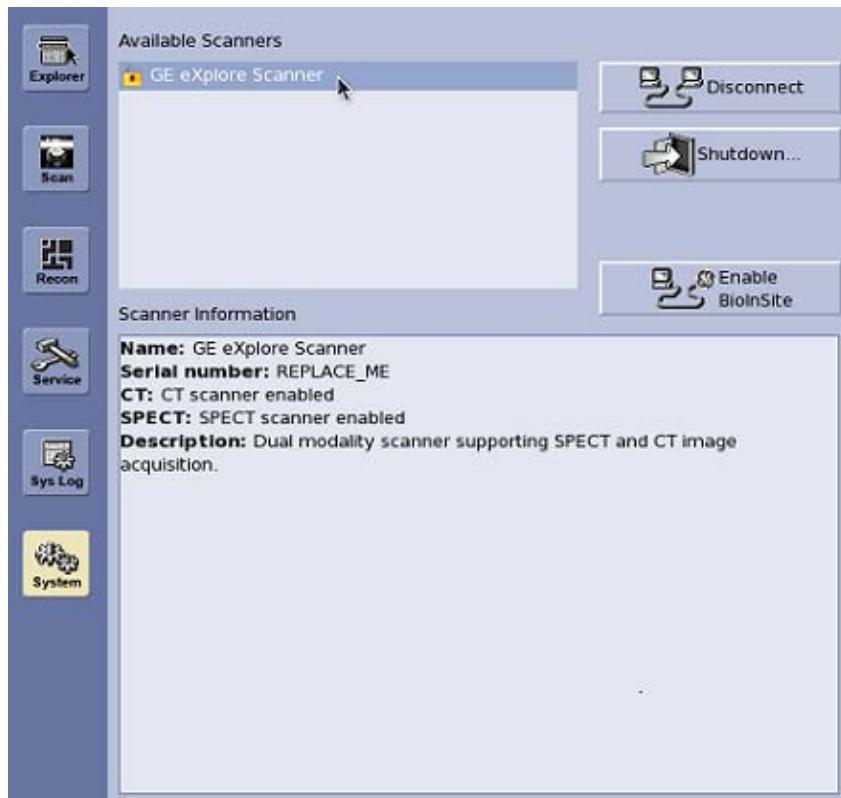

Figure 6-1
1. Start up the console application if it is not already started and connect to the eXplore scanner.(Figure 6-1)